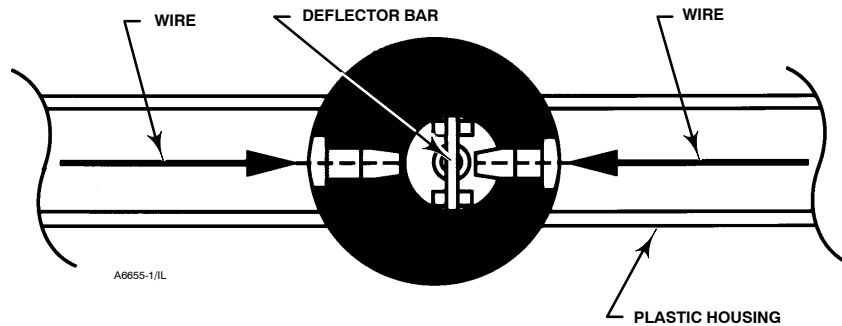

Figure 6-7. Cleaning the Nozzles
- Insert the wire into each nozzle **separately** from the outside as shown in figure 6-7.